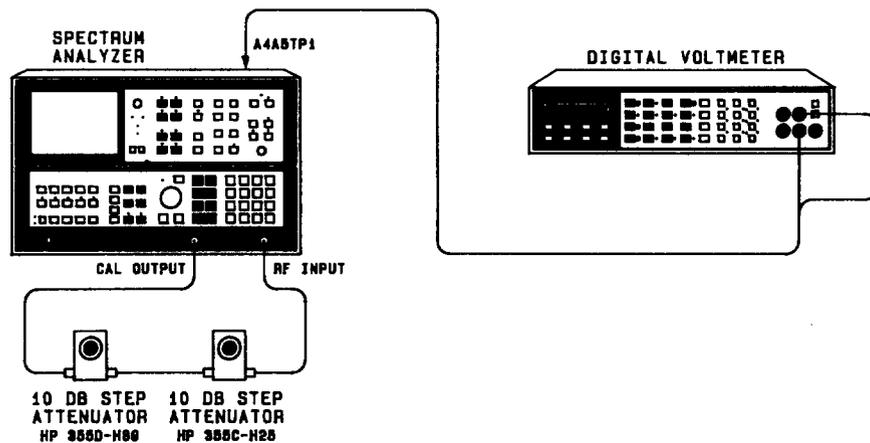

FIGURE 26. 21.4 MHz BANDWIDTH FILTER ADJUSTMENTS SETUP
1. Position instrument upright as shown in Figure 26 and remove top cover.